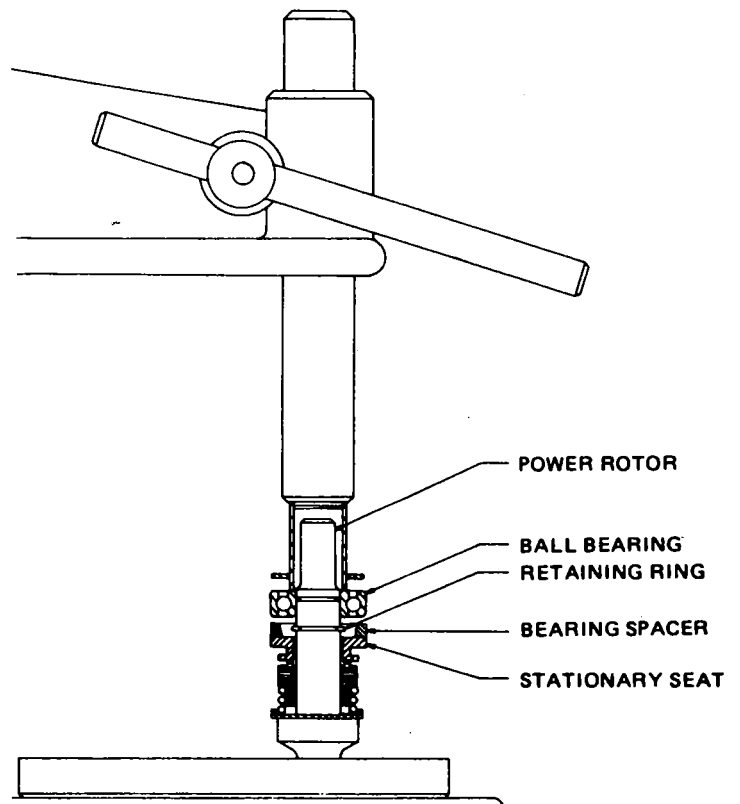

Figure 6.
7. Place the ball bearing on the shaft. Using a hollow tube and *pressing on the inner race*, seat the bearing firmly against the snap ring (Fig. 6). **DO NOT PRESS THE BEARING ON THE OUTER RACE.**